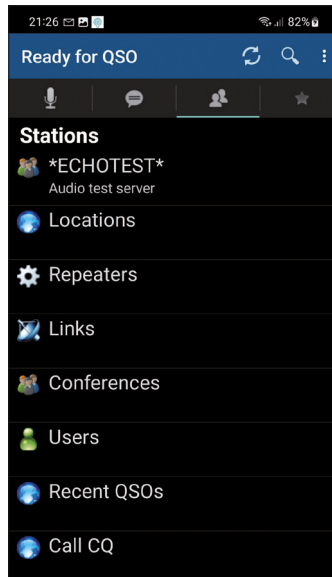

Figure 17.67: EchoLink start up screen on Android smartphone.
- Figure 17.67 shows the start up screen.